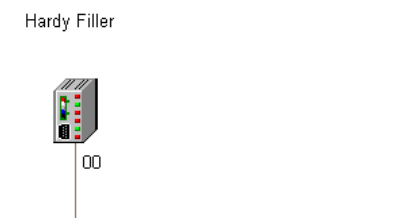
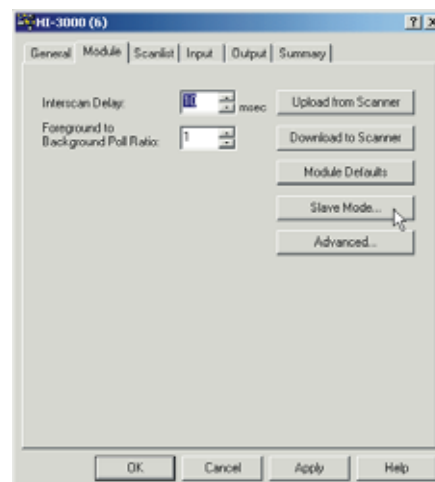
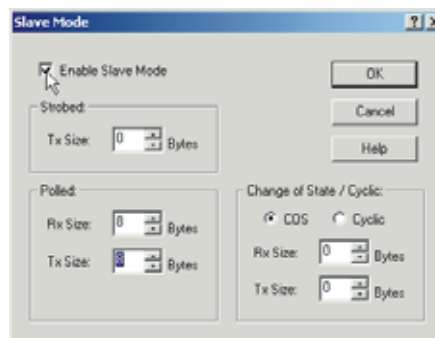

FIG. 119: GRAPH/HARDY FILLER ICON
FIG. 120: MODULE TAB/SELECTING SLAVE MODE
FIG. 121: SLAVE MODE DIALOG BOX
- Step 18. Double click on the Hardy Filler Icon and it appears in the graph with value 00. (See Fig. 119)
- Step 1. Double Click on the Hardy Filler Icon. (See Fig. 119) The Hardy Filler Property List appears with the General Tab selected. (See Fig. 120)
- Step 3. Click on the Slave Mode button. (See Fig. 120) The Slave Mode dialog box appears. (See Fig. 121)